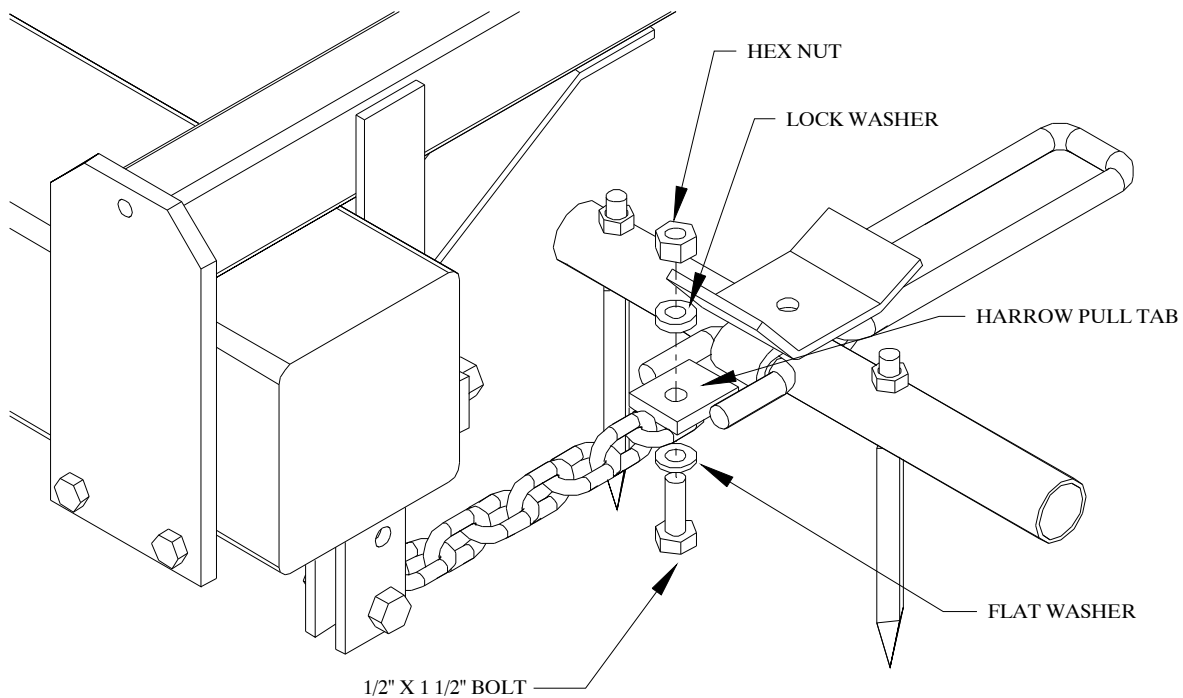

Figure 16
1. Bolt the pull chains to the front tabs on the harrow sections. Refer to Figure 16. Use $\frac{1}{2}$ " x $1\frac{1}{2}$ " bolts, flat washers, lock washers, and hex nuts. The chains should be bolted to the bottom of the pull tabs. Make sure that the chains are not twisted.
1. Bolt the pull chains to the front tabs on the front harrow sections. Refer to Figure 16. Use ½" x 1 ½" bolts, flat washers, lock washers, and hex nuts. The chains should be bolted to the bottom of the pull tabs.
1. Bolt the pull chains to the front tabs on the harrow sections. Refer to Figures 16 and 19. Use ½” x 1 ½” bolts, flat washers, lock washers, and hex nuts. The chains should be bolted to the bottom of the pull tabs.